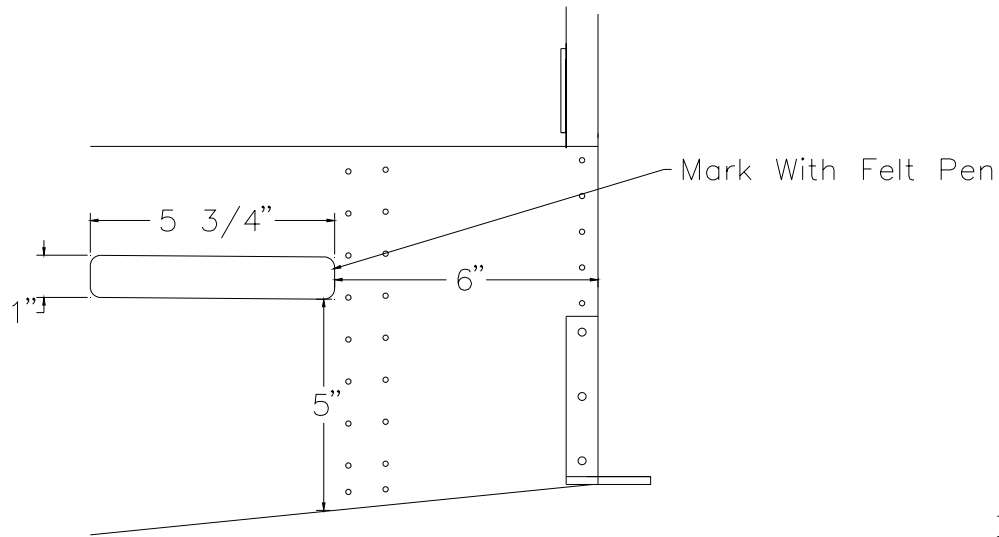

Figure 20.8.6
10) On the sides of the tailcone measure the approximate position of the exit hole for elevator push-pull tubes. Mark the shape of the hole using a felt pen. These are not exact sizes and trimming will be necessary. Figure 20.8.6.